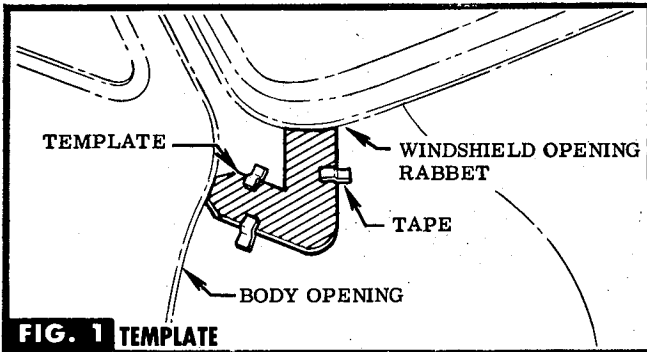

FIG. 1 TEMPLATE
STEP 1 ALIGN TEMPLATE ON RIGHT HAND BODY FRONT OUTER PANEL, TAPE IN PLACE, CENTER PUNCH & DRILL AS INDICATED ON TEMPLATE. REMOVE ANY RESULTANT BURRS. SEE FIG. 1.